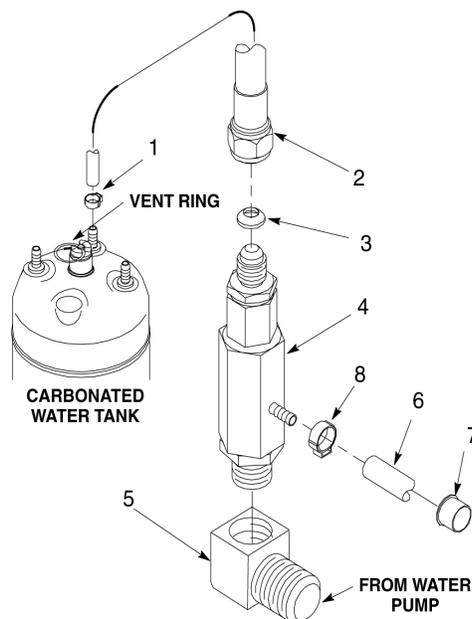

Figure 1. Loose-shipped Parts
2. Refer Figure 1 for LOOSE-SHIPPED PARTS identification.